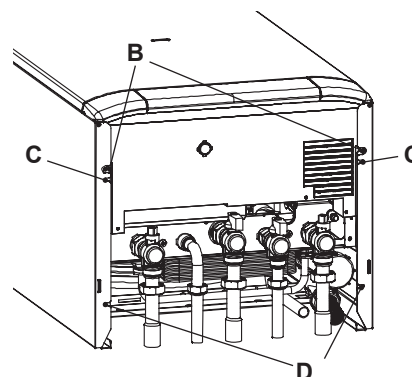

Figure 2.3 - Bottom view of the boiler
To remove the side panels loosen the screws C and D (Figure 2.3), bring the base of the panels away from the boiler and lift them, freeing them from the top hooks.
- 2 Loosen the screws C and D (Figure 2.3).